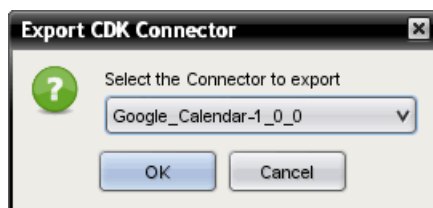

Figure 8-22 Export CDK Connector selection
3. Select Google Calendar, and click **OK**, as shown in Figure 8-22.